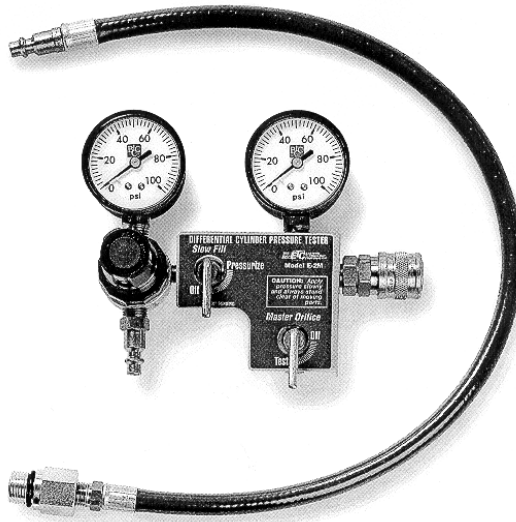

FIGURE 1
- Eastern Technology Corporation Model E2M^①. See Figure 1. **Recommended by TCM.**